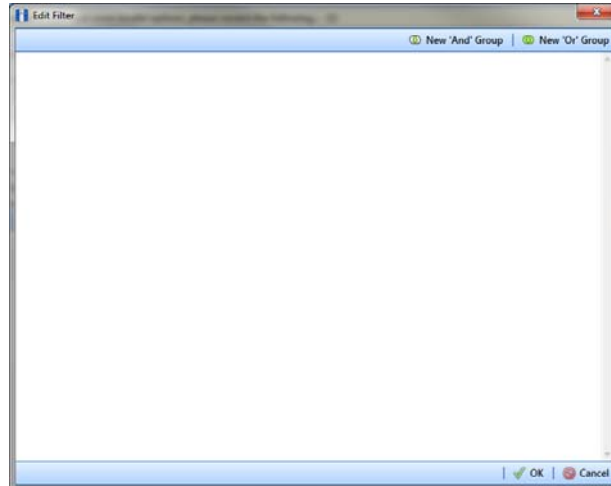

Figure 10-31. Edit Filter
- 7 If you want to set up one or more filters that apply to *all* data items in the definition file, click  **Edit** in the *Filters* group box to open the *Edit Filter* dialog box (Figure 10-31, page 485).